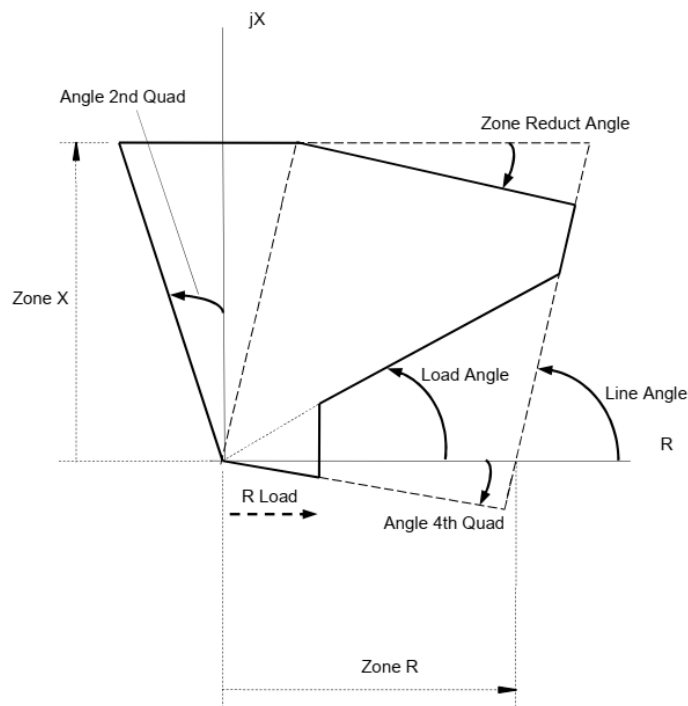

Figure 1-1 The polygon characteristics of the distance protection function on the complex plane (Example: Zone1)
The distance protection function calculates the positive sequence impedance in six measuring loops. The calculated R_1 and $X_1 = \omega L_1$ co-ordinate values define six points on the complex impedance plane. The protection function compares these points with the „polygon” characteristics of the distance protection, shown in Figure 1-1.
If a measured impedance point is inside the polygon, shown in Figure 1-1, then the algorithm generates the true value of the related output binary signal.
- “Forward” (the orientation of the polygon is according to Figure 1-1),